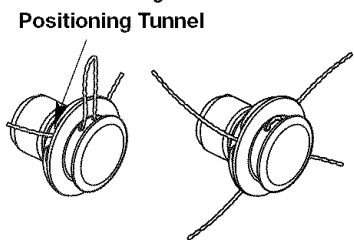
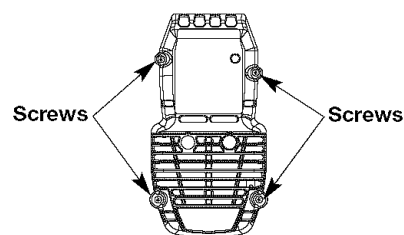

Fig. 12
Fig. 13
CAUTION: Before operating this unit, be sure that the release button is fully snapped into the primary hole (Fig. 12), and that the knob (Fig. 13) is securely tightened.
5. Push and/or pull the line so that the line is snug against the hub and is fully extended through the positioning tunnels. (Fig. 12)
1. Remove the four (4) screws securing the air filter/muffler cover (Fig. 13). Use a flat blade or T20 Torx bit screwdriver.
2. Insert the four (4) screws into the holes in the air filter/muffler cover (Fig. 13) and tighten. **Do not over tighten.**
8. Reinstall the air filter/muffler cover (Fig. 13).